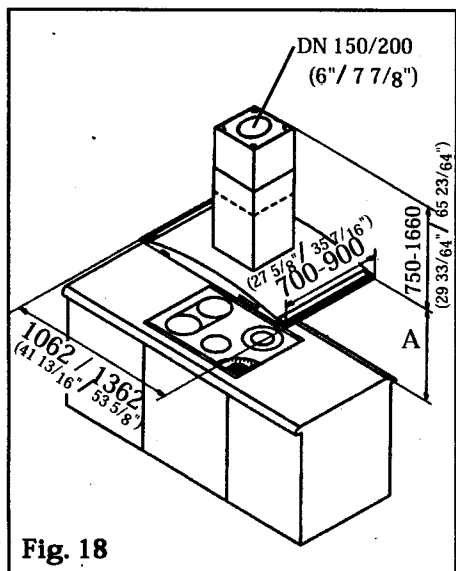

Fig. 18
- To be able to carry out further installation steps, it is necessary to precisely define the required distance between the work surface and the bottom edge of the insular hood (distance A; see Fig. 18):